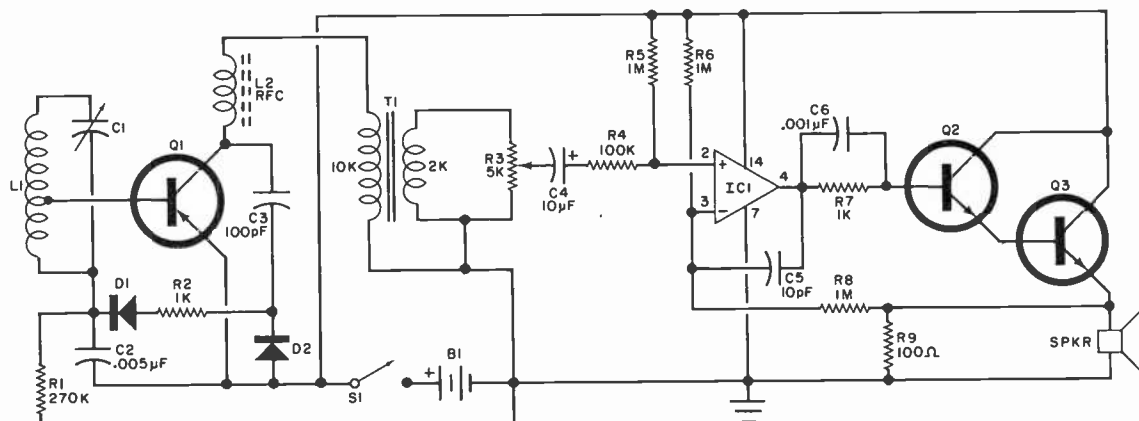

Fig. 7. Broadcast band receiver has reflex front end and IC op amp audio amplifier.
**Reader's Circuit.** Both early and contemporary design concepts are combined in the interesting AM broadcast band receiver circuit illustrated in Fig. 7. Submitted by William J. Wolf (3543 Dubarry Rd., Indianapolis, IN 46226), the circuit features a *reflex* front-end, an IC op amp audio amplifier and a Darlington power output stage. Old timers probably will re-